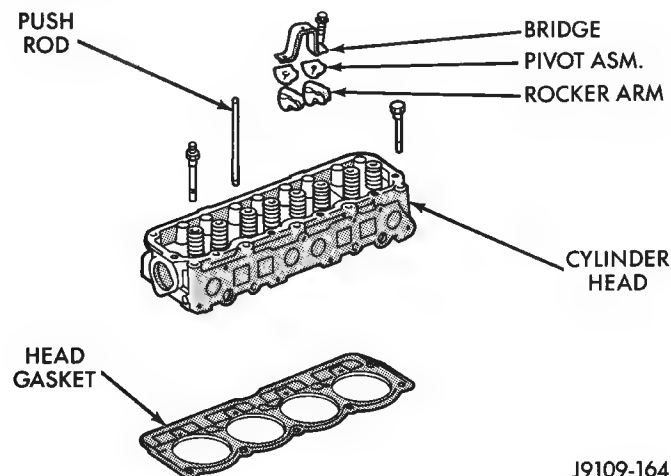

Fig. 3 Engine Cylinder Head Assembly
(9) If equipped, disconnect the power steering pump bracket. Set the pump and bracket aside. DO NOT disconnect the hoses.
(10) Remove the fuel lines and vacuum advance hose.
(11) Remove the intake and engine exhaust manifolds from the engine cylinder head (refer to Group 11, Exhaust System and Intake Manifold for the proper procedures).
(12) Disconnect the ignition wires and remove the spark plugs.
(13) Disconnect the temperature sending unit wire connector.
(14) Remove the ignition coil and bracket assembly.
(15) Remove the engine cylinder head bolts.
(16) Remove the engine cylinder head and gasket (Fig. 3).
(17) If this was the first time the bolts were removed, put a paint dab on the top of the bolt. If the bolts have a paint dab on the top of the bolt or it isn't known if they were used before, discard the bolts.
(18) Stuff clean lint free shop towels into the cylinder bores.